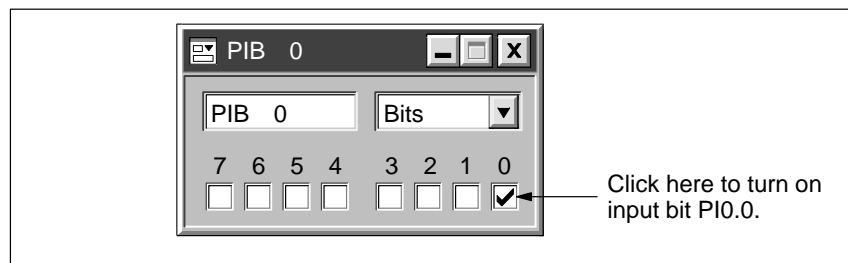

Figure 2-5 Turning on Input PI0.0
2. Click either bit 0 or bit 1 in the Input Variable view object to turn on PI0.0 or PI0.1, as shown in Figure 2-5.